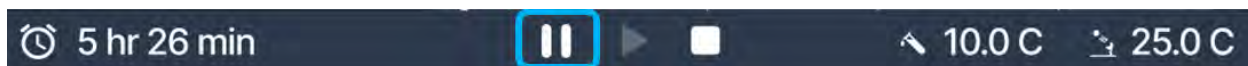

Figure 5.42: Experiment Pause Button on the Alto Control Software
1. Experiments can be paused using the "Pause" button located in the bottom navigation bar as highlighted in Figure 5.42.